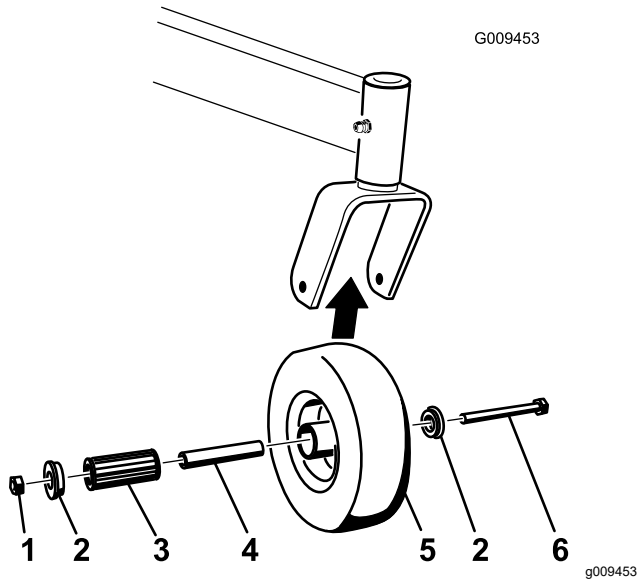

Figure 61
1. Remove the locknut and wheel bolt holding the caster wheel to the caster fork (Figure 61).
2. Remove 1 bushing, then pull the spanner bushing and roller bearing out of the wheel hub (Figure 61).
3. Remove the other bushing from the wheel hub and clean any grease and dirt from the wheel hub (Figure 61).
**Note:** Replace any damaged or worn parts (Figure 61).
5. Place 1 bushing into the wheel hub (Figure 61).
6. Grease the roller bearing and spanner bushing, and slide them into the wheel hub (Figure 61).
7. Place the second bushing into the wheel hub (Figure 61).
8. Install the caster wheel into the caster fork and secure it with the wheel bolt and locknut (Figure 61).
9. Tighten the locknut until the spanner bushing bottoms against the inside of the caster forks (Figure 61).